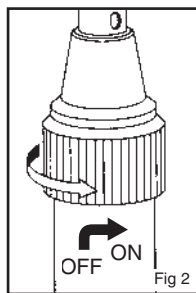

Fig 2
1. Push up, then turn the gas control ring clockwise to release a small amount of gas (hissing sound) through the burner. (Fig 2)